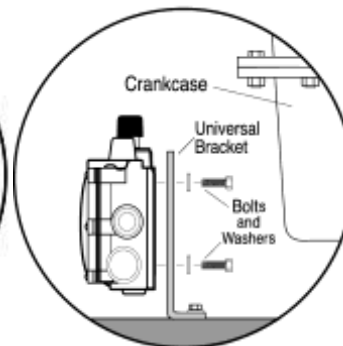

Figure 3B
2. Mount the LM500 to the universal bracket using two 1/4-20 UNC x 3/4 inch (19.05mm) bolts; nuts and lock washers supplied (Figure 3B). **DO NOT** tighten the adjustment screws too tight as you will have to adjust the LM500 later in the installation process. Refer to "Connecting Fittings and Hoses" for information regarding height adjustment of the LM500 in alignment with the oil level in the crankcase.